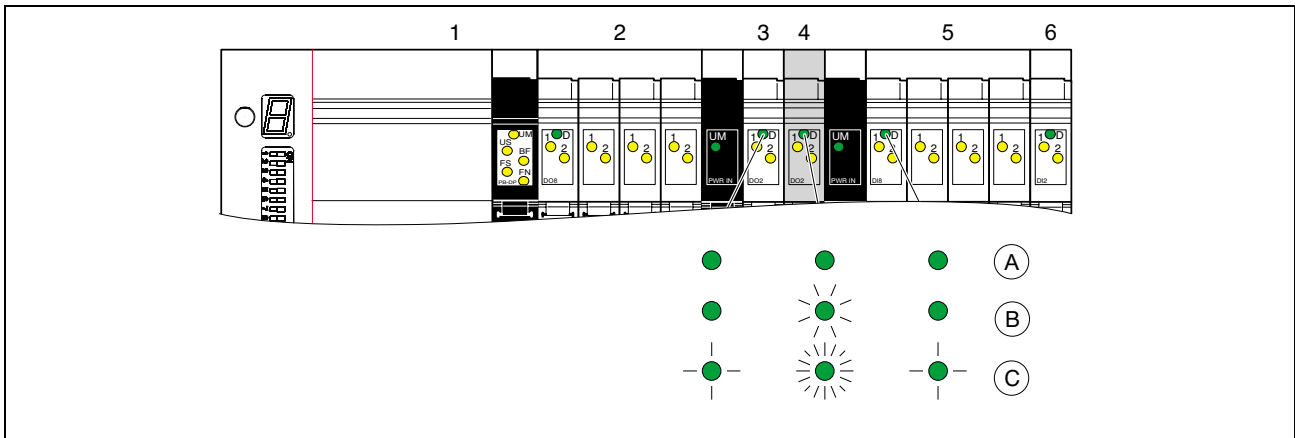

Fig. 9-21: Station with diagnostic indicators
If there are no failures, the green LEDs on the bus coupler and the modules emit steady light (Fig. 9-21, A).
Fig. 9-21 shows a station with possible failure states. The periphery errors at module 4 and the bus errors between module 3 and module 5 as well as the behavior of the diagnostic indicators of the neighboring modules are observed.
- B Periphery error, see Fig. 9-21.
- C Bus error, see Fig. 9-21.